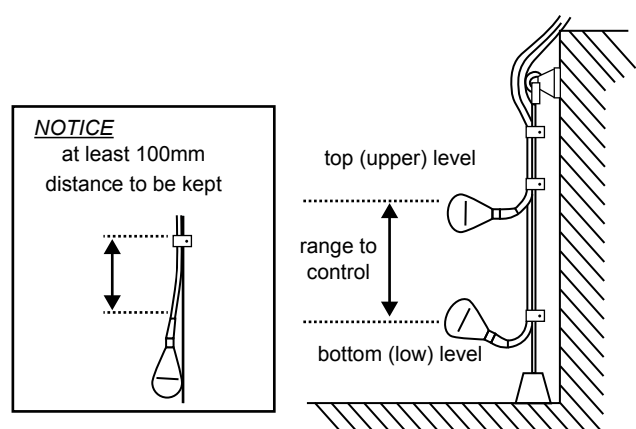

Figure 14. Float Switches
3. Set the top (drain) and bottom (stop) water levels you expect to control with the float switches (Figure 14).
- Set the top (drain) and bottom (stop) water levels you expect to control with the float switches (Figure 14).